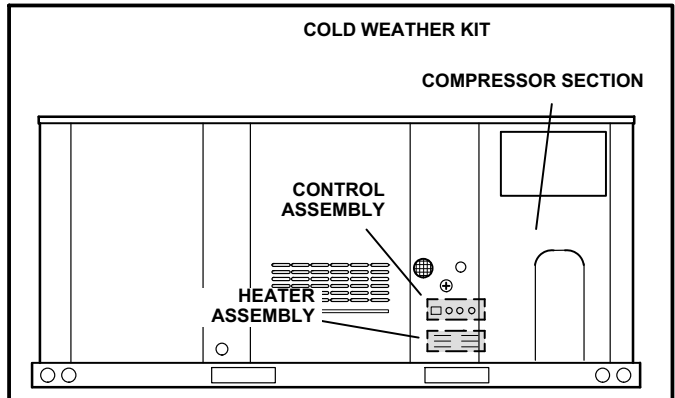

FIGURE 1
- 2- Install the heater and control assembly in the compressor compartment as shown in figure 1 and 3. Secure with provided screws.